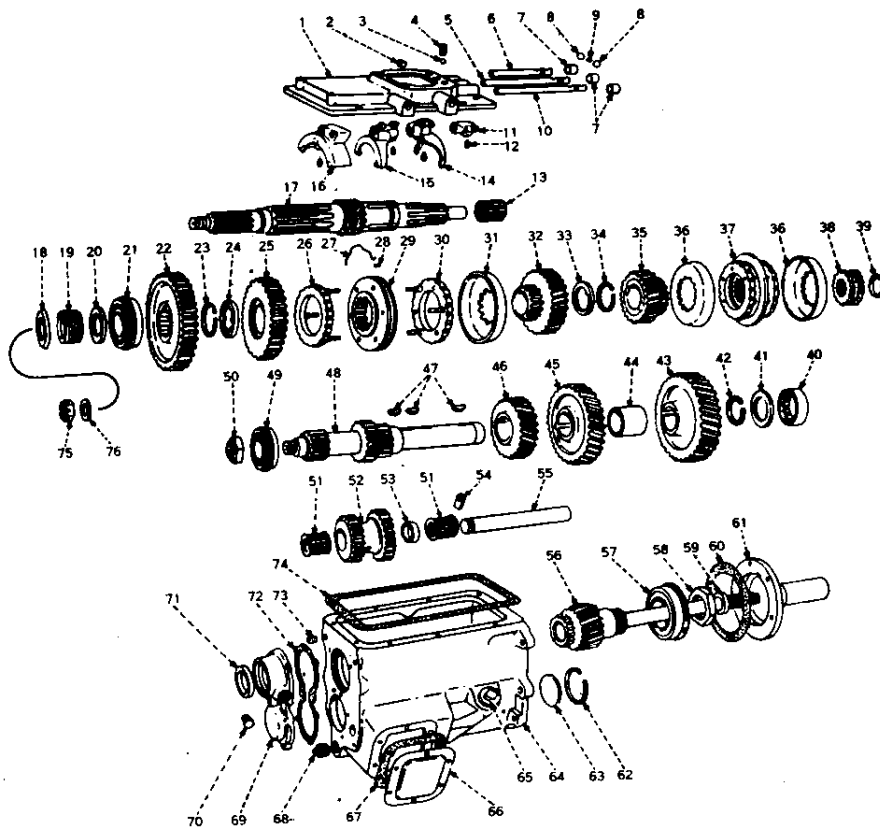

FIG 38 - TRANSMISSION (EXPLODED VIEW)
72. To replace PTO-to-transmission case gasket (item 67 fig 38):-
73. To replace mainshaft rear bearing retainer gasket (item 72, fig 38) or mainshaft oil seal (item 71, fig 38):-
- d. Remove mainshaft rear bearing retainer (item 69, fig 38).
- e. Replace gasket (item 72, fig 38) and/or oil seal (item 71, fig 38).